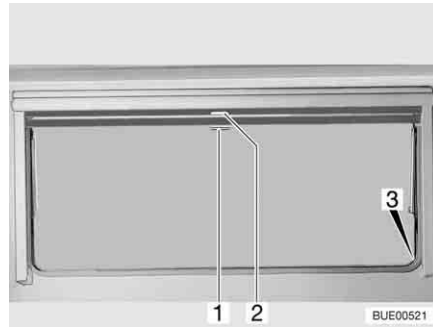

Fig. 11 Hinged window
Closing: ■ Pull blind at the handle (Fig. 11,2) downwards. If the blind is to be completely closed, it is suspended into the locking devices (Fig. 11,3) situated on both sides of the window frame.
Opening: ■ If the blind is completely closed: Press handle (Fig. 11,2) downwards and, at the same time, tilt it slightly inward. The blind can be taken out of the locking devices situated on both sides of the window frame.
■ If the blind is in an intermediate position: Pull the handle (Fig. 11,2) slightly downwards until the locking device releases.
Closing: ■ Pull insect screen at the handle (Fig. 11,1) down and hang it into the locking devices (Fig. 11,3) situated on both sides of the window frame.
Opening: ■ Press handle (Fig. 11,1) downwards and, at the same time, tilt it slightly inward. The insect screen can be taken out of the locking devices situated on both sides of the window frame.